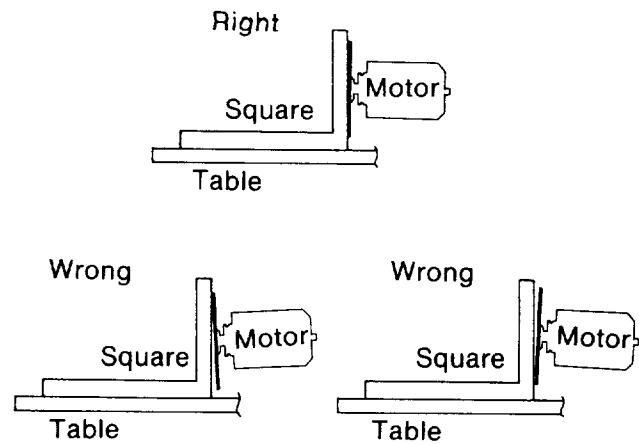

Fig. 73
7. If the square is flush with the *blade* after each rotation, no change is needed. (Figure 73) Go to the next section, or
If there is a gap between the square and the *blade* after any rotation (Figure 73), go to step 8. **Note:** Saw blades are manufactured to different specifications. Therefore a small gap is permissible on some brands.